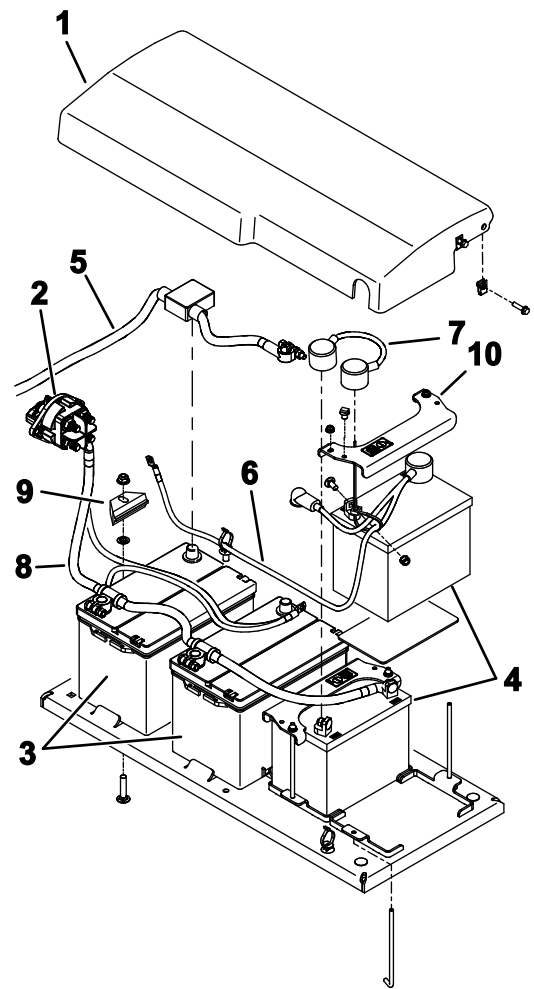

Figure 113
- 6. Remove the fasteners that secure the battery cover to the machine and remove the cover (Figure 113).
- 9. Carefully remove the batteries from the machine (Figure 113).
1. Secure the batteries with the hold downs (Figure 113).